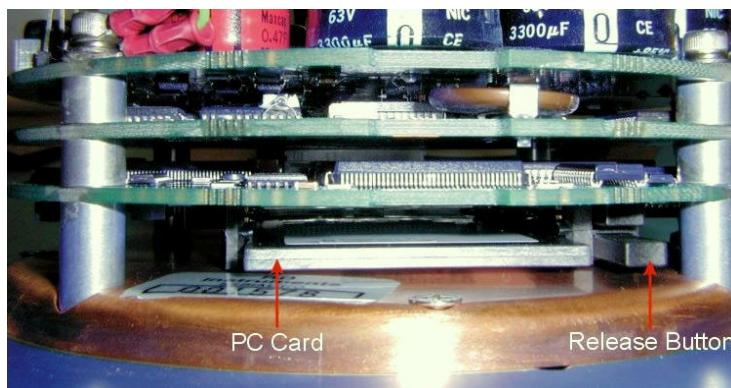

Figure 57. PC Card Recorder
The PC Card recorder is located on the Digital Signal Processor (DSP) board inside the WorkHorse's electronics (see Figure 57). To recover data, the card can be removed and used in a personal computer (PC), or left in the WorkHorse, and accessed by using *TRDI Toolz*.